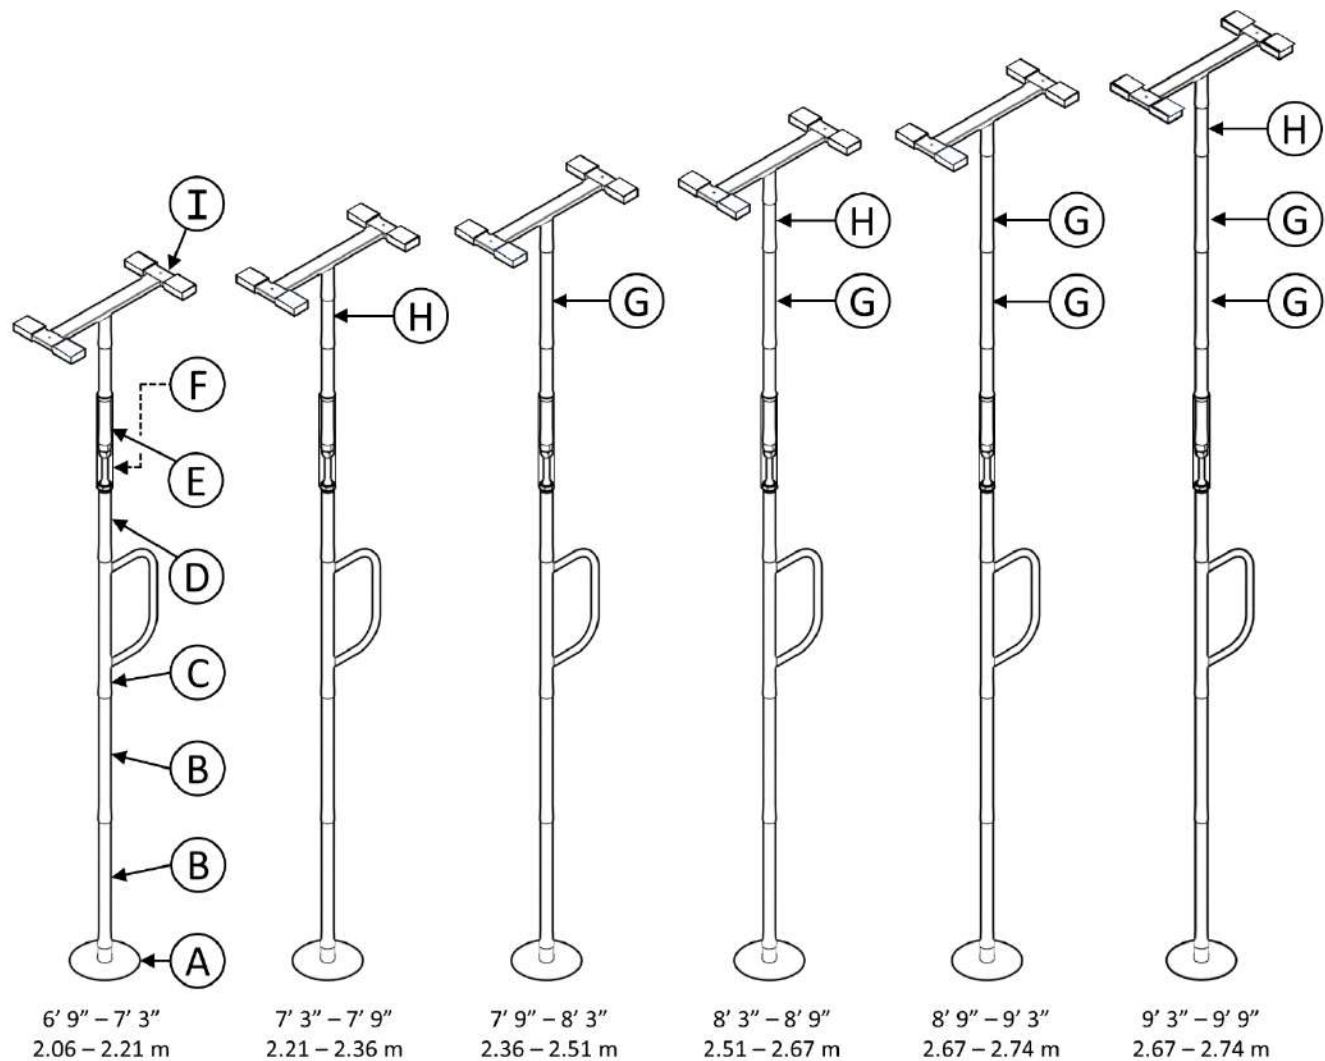

FIGURE 2
2. Measure your ceiling height and select the appropriate configuration shown in *FIGURE 2*. Stack each part starting with **A** and ending with **I**. All parts are tapered to fit together, narrow end up, wide end down.